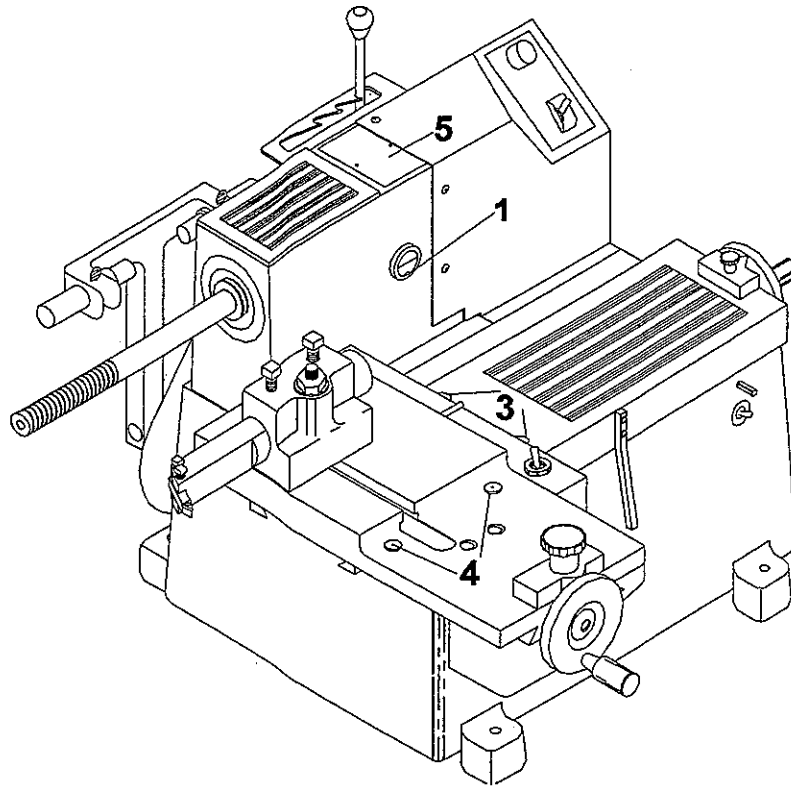

Fig.1 Lubrication points
- 6 Check oil level in spindle housing window (1, figure 1) before starting the lathe. Oil level is correct when window indicator shows half full in window. To fill, remove top plate (5, figure 1). Use S A E 90 gear oil.
- 7 Lubricate tool carriage ways and ALL lube points (2 & 3, figure 1) with a good grade SAE 10 oil. **NOTE:** Lathe should be cleaned and oiled daily when in use.